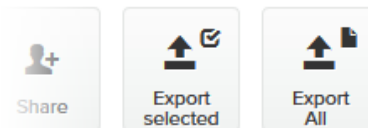

Figure 70. Plug-ins web page (code export controls)
4. To export only selected Activation codes, check the selection check-boxes to the left of each plug-in that must be included in the *.CSV file, then click the **Export selected** button. Alternatively, export all Activation codes by clicking the **Export All** button (Figure 70 \(page 156\)).